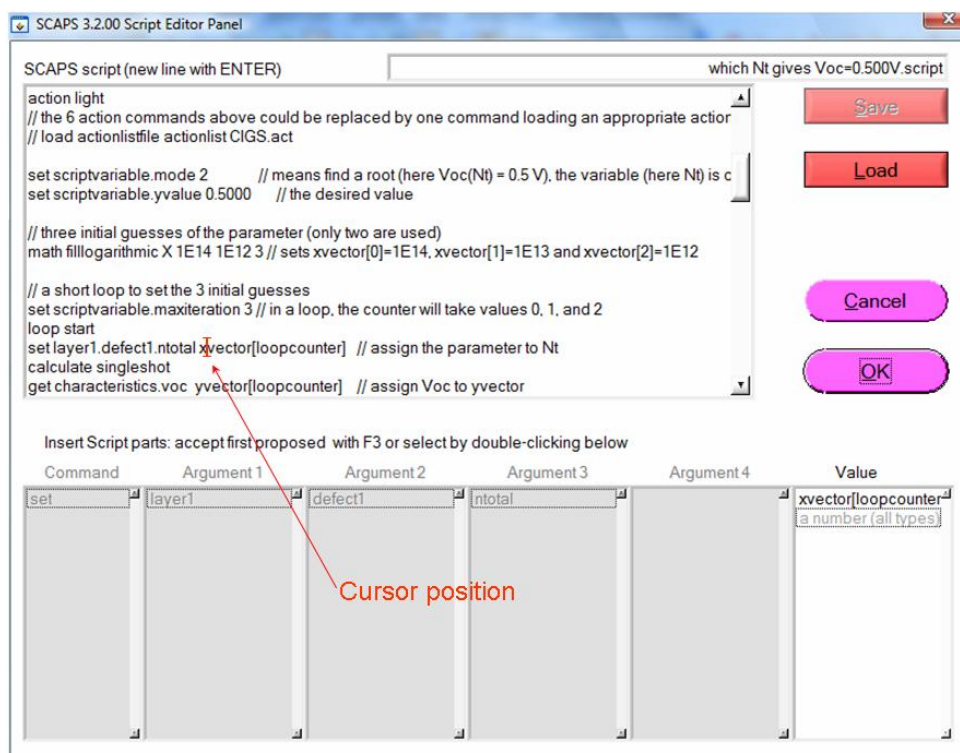

Figure 10.2 Screen shot of the SCAPS script editor.
A script-file can be written in any text editor, e.g. notepad. A typing error is however quickly made. In order to avoid this, it is strongly recommended to use the script editor, which is launched when clicking the ‘script set-up’-button on the action panel, see Figure 10.1, which opens the panel shown in Figure 10.2.
- When placing the cursor in an existing line of a script (as shown in Figure 10.2), the components of this command line (thus: the command, the arguments and the value) are shown in the six blocks at the bottom of the panel. When typing a new line in a script, the parts of the command line available so far are proposed in these blocks, and can be selected and placed in the editor box of the script, either by double-clicking on the desired argument or by pressing F3.